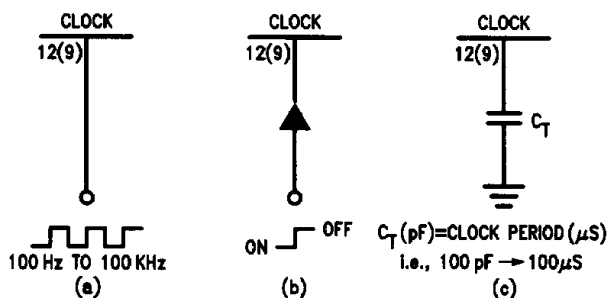

FIGURE 3. Clock Input. External clock (a), controlling internal clock (b), reducing internal clock frequency (c).
CLK 12 (9)	External clock input/internal adjust. The frequency of the internal clock (nominally 100 kHz) may be reduced with an external capacitor or an external clock connected to the CLK input. The logic thresholds for this input are 4 volts for a logic high and 1 volt for logic low. The internal clock can be stopped by applying a logic high, through a diode, to the CLK input. When a logic low is applied to the diode, the internal clock runs freely. (See Figure 3)
In order to control the events that take place in the LMC669, an internal Schmitt trigger oscillator generates a 100 kHz clock. This oscillator's frequency can be lowered by connecting a capacitor between the CLK input and ground as in *Figure 3c*. It can also be overridden by applying an external clock source ($\leq 100\text{ kHz}$) to the CLK input (*Figure 3a*). Further, the clock can be halted with a diode connected as shown in *Figure 3(b)*.